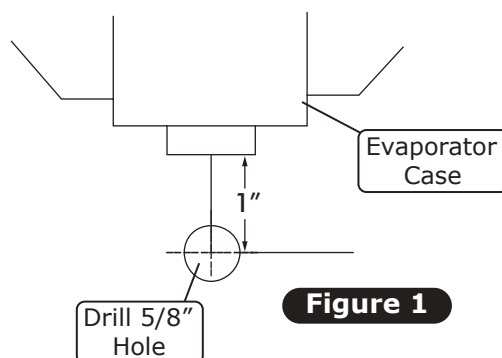

Figure 1
2. In line with the drain, lightly make a mark on the firewall. Measure 1" down. Drill a 5/8" hole through the firewall (See Figure 1, below). **NOTE: Before drilling the drain tube hole, make sure the engine side of the firewall is clear.**